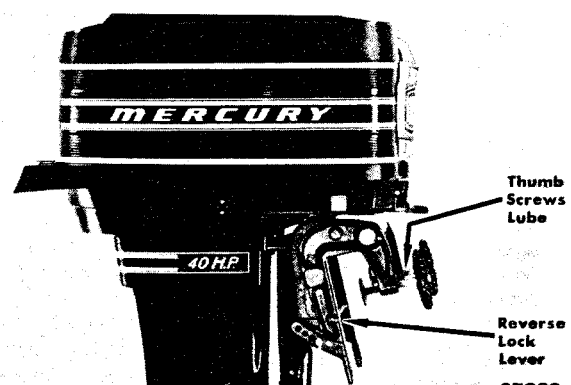

Figure 50. Reverse Lock Lever - Thumb Screws - Tilt Stop Lever
3. Lubricate the thumb screws (Figure 50) of the motor with Anti-Corrosion Grease (C-92-45134 or C-92-63290) to ensure smooth operation.